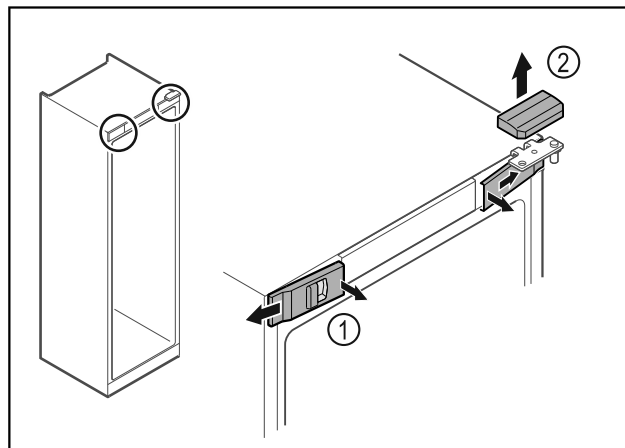

Fig. 12
- Unlatch the front covers Fig. 12 (1) on the inside and remove them sideways.
- Lift off the upper cover Fig. 12 (2).